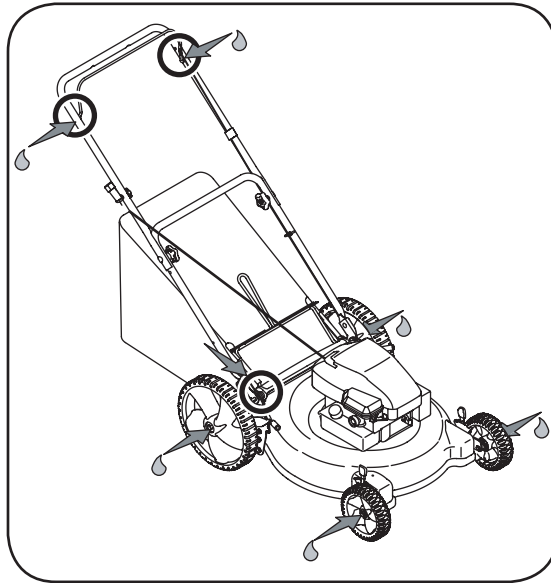

Figure 3
1. Lubricate pivot points on the blade control handle at least once a season with light oil. The blade control must operate freely in both directions. See Figure 3.
2. Lubricate the wheels at least once a season with light oil (or motor oil). If wheels are removed for any reason, lubricate surface of the pivot arm and inner surface of the wheel with light oil. See Figure 3.
3. Lubricate the torsion spring and pivot point on the rear discharge door periodically with light oil to prevent rust. See Figure 3.